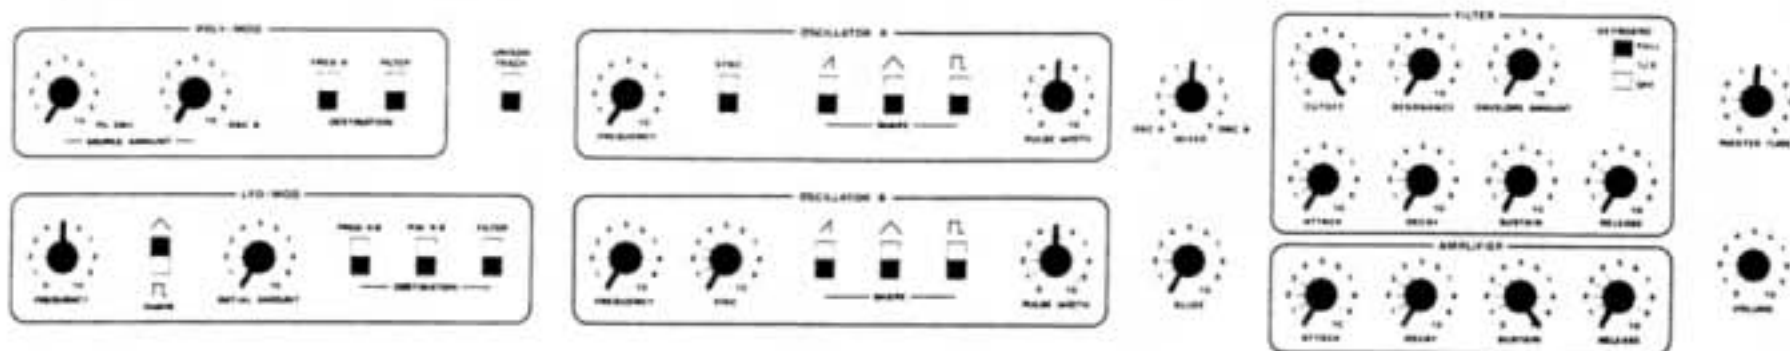

Figure 1-1
All tests begin with controls positioned as shown in Figure 1-1. The essential features of this patch are that no oscillator waveforms are switched on, the filter and amplifier are fully "open," and there is no modulation.
1. Activate TUNE. Switch PRESET off (Manual Mode) and patch according to Figure 1-1.
1. Switch PRESET off (Manual Mode) and patch according to Figure 1-1.
7. Check range of frequency modulation (FM) applied by POLY-MOD OSC B.